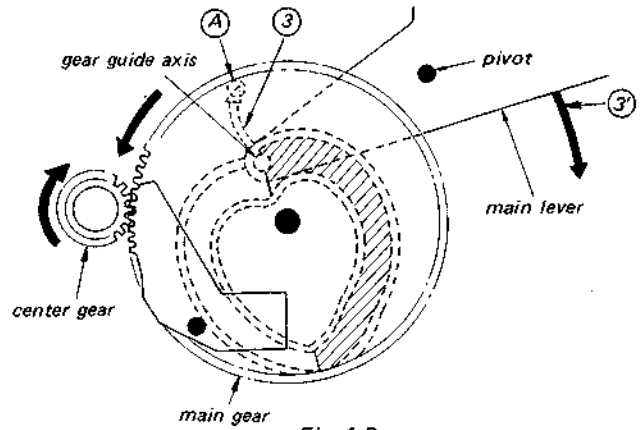
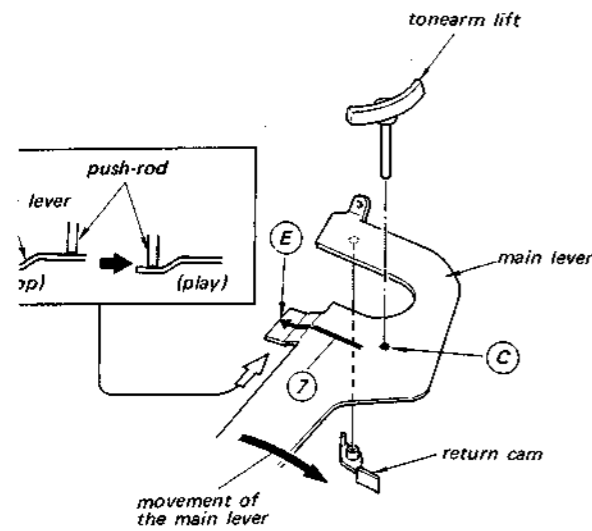
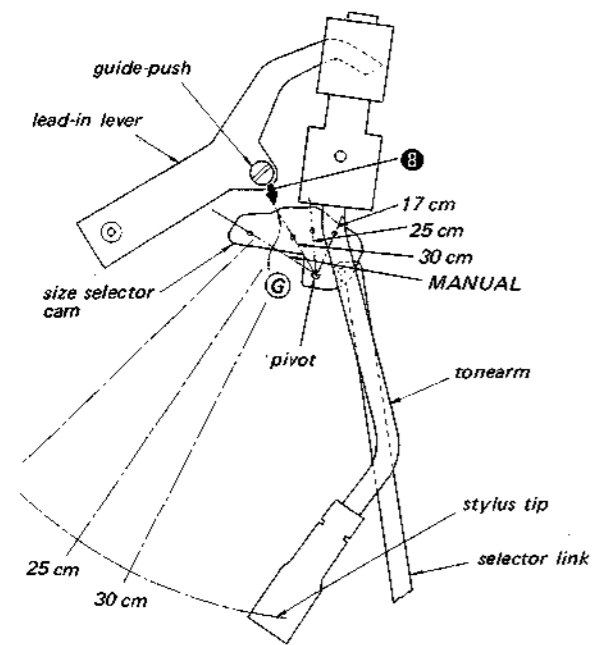
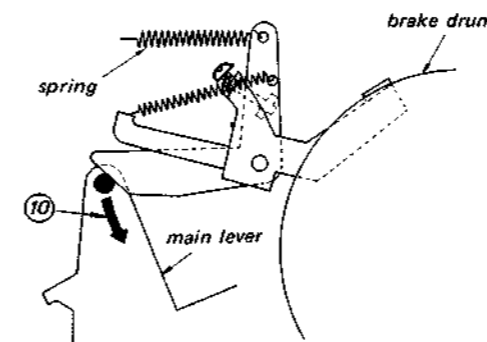

Fig. 1-3.
Fig. 1-5.
Fig. 1-6.
Fig. 1-8.
4. The gear guide axis at the tip of the main lever, is guided by the shaded section of the heart-shaped cam groove located on the main gear, moving across in a curved path ③ to position ④. Therefore, the main lever moves in the direction of arrow ③. (See Fig. 1-3.)
The central axis of the push rod resting against the tonearm lifter is on the position (C) in STOP mode. (See Fig. 1-5.)
During lead-in, the main lever moves across in the direction of arrow (3) (See Fig. 1-3), resulting in the position of the central axis of the push rod moving across as shown by arrow (7). (Fig. 1-5.)
3. The guide-push stops at the position determined by the surface (G) (Fig. 1-6) of the record size selector cam. The push rod consequently descends to the lower position (E) of the main lever (Fig. 1-5), resulting in the tonearm lowering onto the surface of the record for the commencement of play.
4. The position where the tonearm lowers (30 cm, 25 cm, 17 cm) is determined by the position of the record size selector cam shown in Fig. 1-6. The guide-push of the lead-in lever moves across in direction of arrow (8) during lead-in, and meets the size selector cam at surface (G) (for the 30 cm example shown), thus determining the drop point at the outer edge of a 30 cm record. That is, this position determines the distance moved by the lead-in lever, which consequently determines the rotational angle of the brake drum (and of the tonearm as well). With the record size selector knob set to the MANUAL position, the lead-in lever moves a little and the tonearm does not move.
5. The return cam attached to the main lever (see Fig. 1-5) pushes against the pin of the brake drum, forcing the tonearm to move back (horizontally) towards the arm rest.
6. The return operation is completed when the tonearm arrives back at the arm rest. The main gear comes to a stop in the position shown in Fig. 1-3.
Furthermore, a spring is also employed to exert pressure upon the main lever in the direction of arrow (10) (see Fig. 1-8), thus keeping the main gear in the stop position. (See Fig. 1-3.)